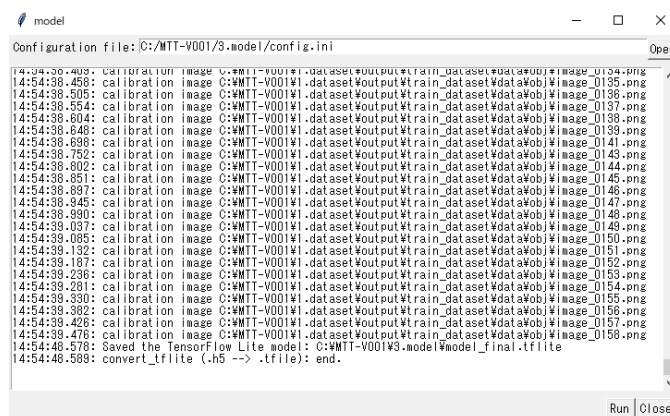

Fig. 5.18 Execution result
- (f) When "convert\_tflite (.h5 --> .tfile): end." appears on the log screen as shown in Figure 5.18, the process is complete. Click "Close" at the bottom right to exit.